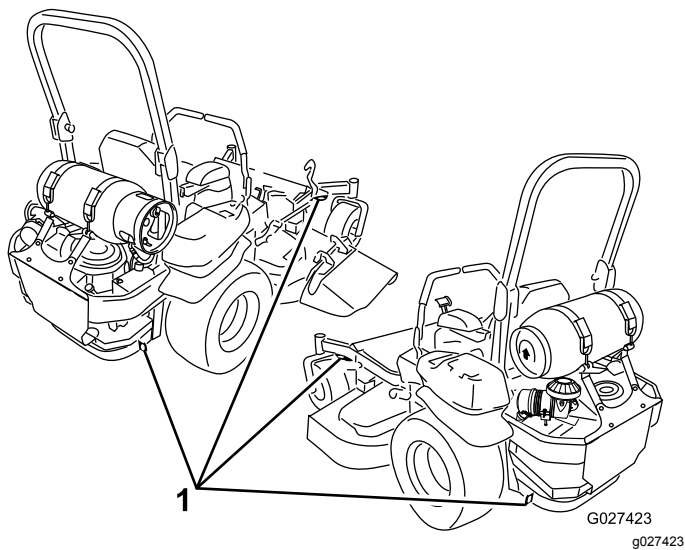

Figure 35
5. Use the metal tie-down loops on the machine to securely fasten the machine to the trailer or truck with straps, chains, cable, or ropes (Figure 35).